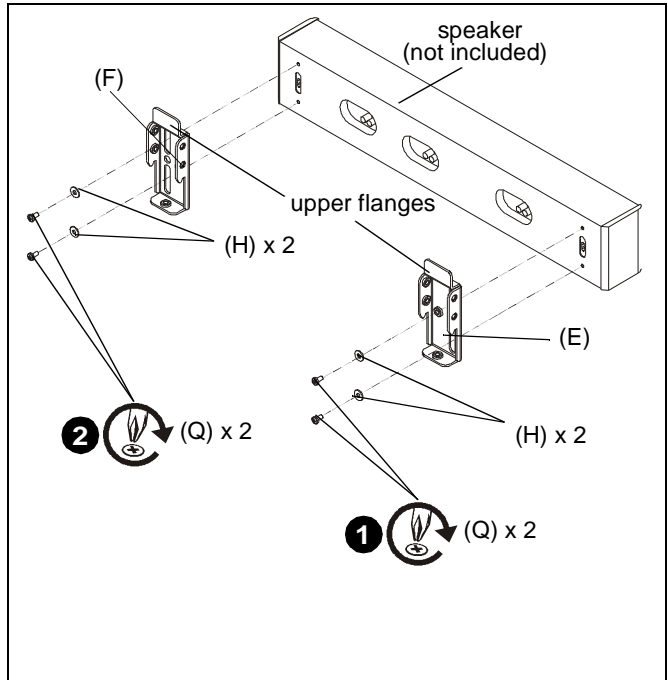

Figure 13
1. Attach left speaker interface (E) to back of speaker (left side) using two 1/4-20 x 1/2" Phillips pan head screws (Q) with two large washers (H). (See Figure 13)
**NOTE:** Ensure that upper flange of interface brackets are at top of speaker. (See Figure 13)
2. Repeat Steps 1 with right speaker interface (F). (See Figure 13)